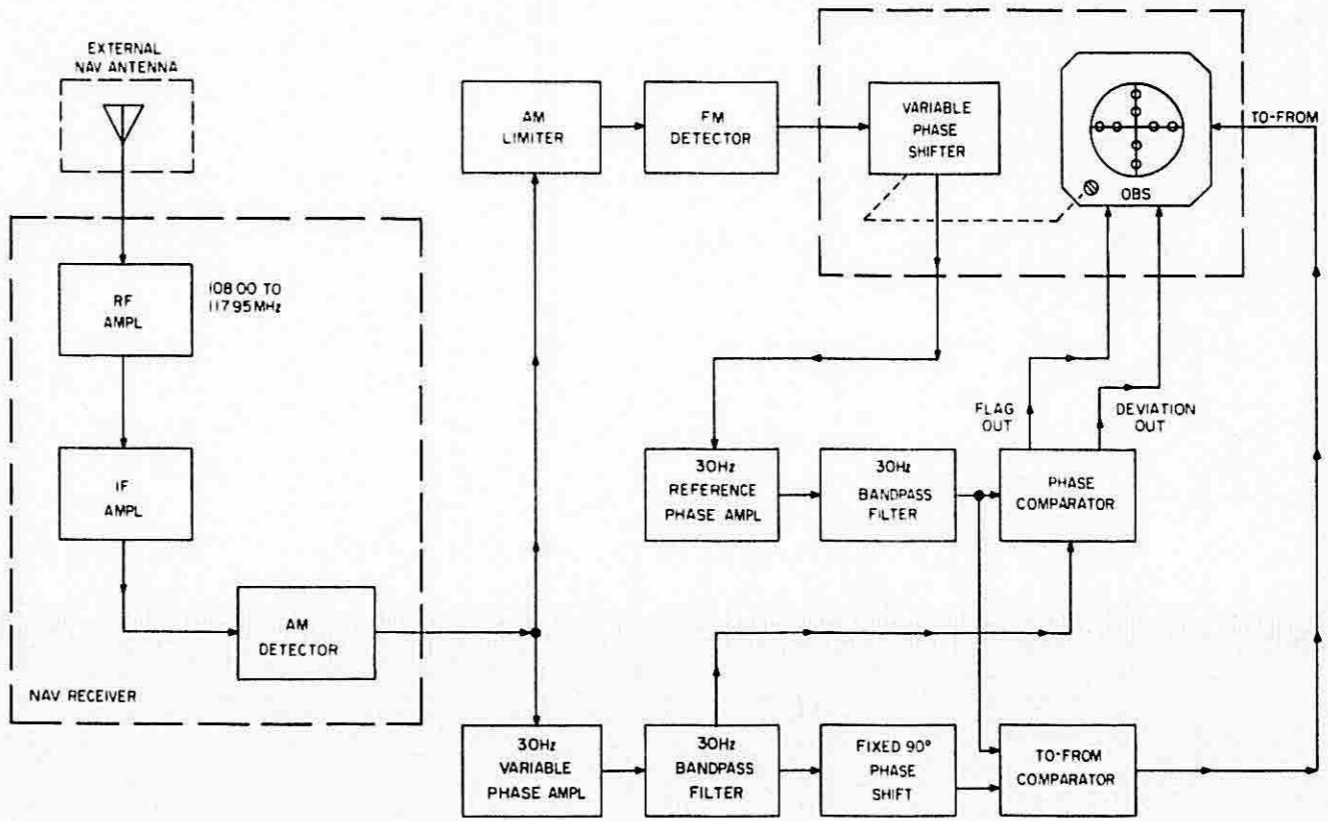

FIGURE 4-2 MANUAL VOR RECEPTION, FUNCTIONAL DIAGRAM
4.2.3.1 Manual VOR Reception. The signal from the receiving antenna must be separated into variable phase and reference phase channels before information can be extracted. Refer to figure 4-2. The rf carrier is amplified and AM detected. The output from the AM detector is the 30Hz variable phase signal and the 9,960Hz signal which is frequency modulated by the 30Hz reference phase signal. The detector output is fed to a variable phase channel and a reference phase channel. The frequency modulated 9,960Hz signal is eliminated from the variable phase channel by a low-pass filter. The 30Hz variable phase signal then enters a phase comparator as one of the two inputs. The reference phase signal, on its 9,960Hz subcarrier passes through a AM limiter to eliminate the 30Hz variable phase signal. A FM detector recovers the 30Hz reference voltages from the subcarrier. The 30Hz reference voltage enters a phase shifting circuit. The amount of phase shift is controlled by the resolver of the course selector. The output from the phase shifter enters the phase comparator to be compared with the variable phase signal. The dc output of the phase comparator drives the VOR-LOC course deviation needle.
Refer to figure 4-2. The 30Hz reference phase signal from the variable phase shifter, is also tapped to a fixed 90° phase shifter. If the VOR needle is centered, the reference phase signal and variable phase signal entering the to-from phase comparator will be either in phase or 180° out of phase. The to-from phase comparator has a dc output of proper polarity to pull the "to" indication into view when the signals are in phase, while the "from" indication is in view when the signals are 180° out of phase. If the signals into the comparator are not in phase or 180° out of phase, the output will be less than maximum. The output decreases to zero at 90° or 270° phase difference and the to-from window is blank. The relative phase of the two signals is dependent upon the direction of the aircraft from the station with respect to the direction set beneath the course index. When a heading of the direction given beneath the course index would direct the aircraft toward the station, a "to" indication is given. When the heading of the direction given beneath the course index would direct the aircraft away from the station, a "from" indication is given. Only the direction of the aircraft from the station affects the to-from indicator, not the heading of the aircraft with respect to the station.